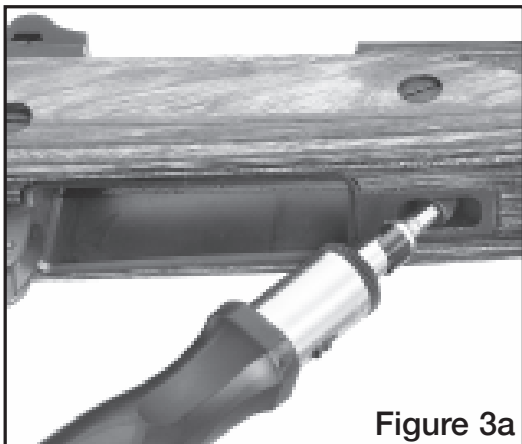

Figure 3a
- a. Loosen and remove the screw that holds the front mounting lug. See Figures 3a & 3b.